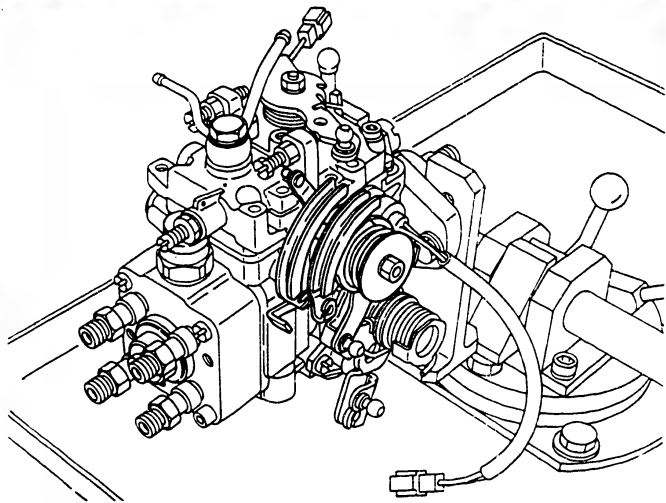

Fig. 174 Attaching the injection pump
1. Attach the injection pump to the bracket (KDEP 2963) using the two bolts. (Fig. 174)